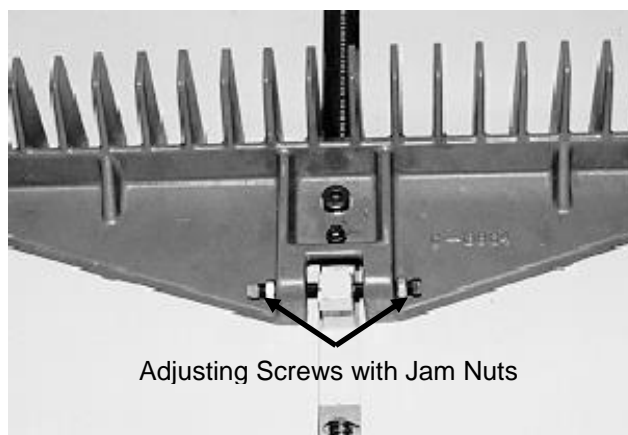

Figure 38
2. Loosen the jam nuts on the backgauge adjusting screws (Figure 38).